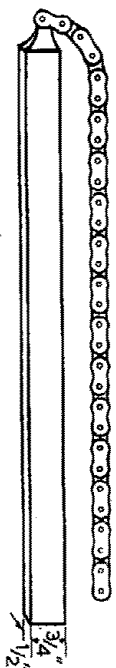

FIG. 29.—CHAIN BAR.
- (1) The clutch cable.
- (2) The four nuts fixing kick-starter-case cover and withdraw, leaving the kick-starter crank and foot-change pedal in position. Fit a rubber band between the kick-starter crank and foot-change pedal to prevent the kick-starter spring unwinding.
- (3) The clutch lever in the kick-starter-case cover, also the short push rod. Watch for the $\frac{1}{4}$ in. steel ball used between the short and long push rods.
- (4) The kick-starter pinion nut; pull off the pinion and spring.
- (5) The four nuts fixing the kick-starter case to the gearbox shell.
- (6) The kick-starter case. Watch for the twelve rollers on the camshaft.
(7) The slotted bolt at bottom of the gearbox shell, with its spring, which operates the pawl.
(8) The whole of the gears and layshaft, except the main driving gear, with camshafts.
(9) The rear chain. The mainshaft can now be withdrawn from the clutch end of the gearbox. Using a chain bar, which is simple to make (Fig. 29), with a short length of $\frac{1}{8}$ in. $\times$ $\frac{3}{8}$ in. chain attached, drape the chain round the sprocket, with the bar propped against the frame. Should it be inconvenient to make a tool of this kind, leave the chain attached and apply pressure on the brake pedal to release the sprocket-fixing nut after turning
The nut securing the rear-chain sprocket is firmly tightened, therefore some difficulty may exist in holding the sprocket during this process. The chain bar (Fig. 29) is the tool for this job, fitted on to the sprocket, with the bar propped against the frame after disconnecting the rear chain.